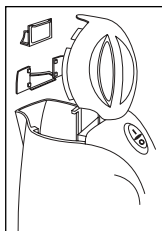

Figure 1
1. To remove the filter (*See Figure 1*): Empty the kettle and open lid.